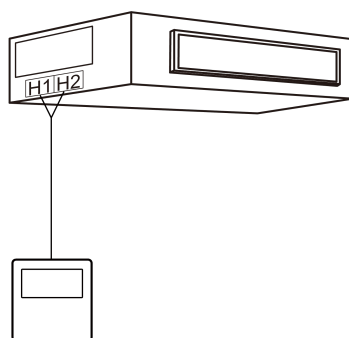

Fig.5.4.1
- 1) Fig.5.4.1 shows the installation of wired controller.